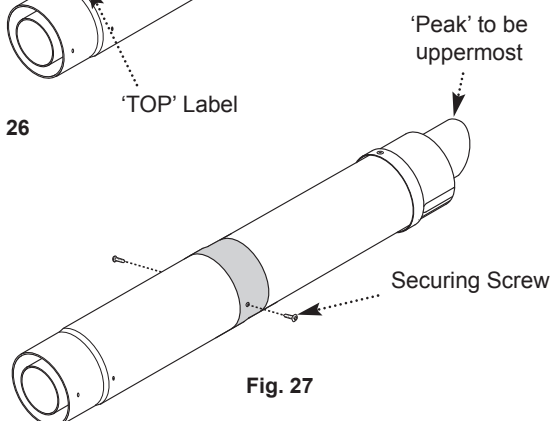

Fig. 27
9. Using the clearance holes in the Connection Assembly secure it to the Terminal Assembly using the screws supplied (Fig. 27).